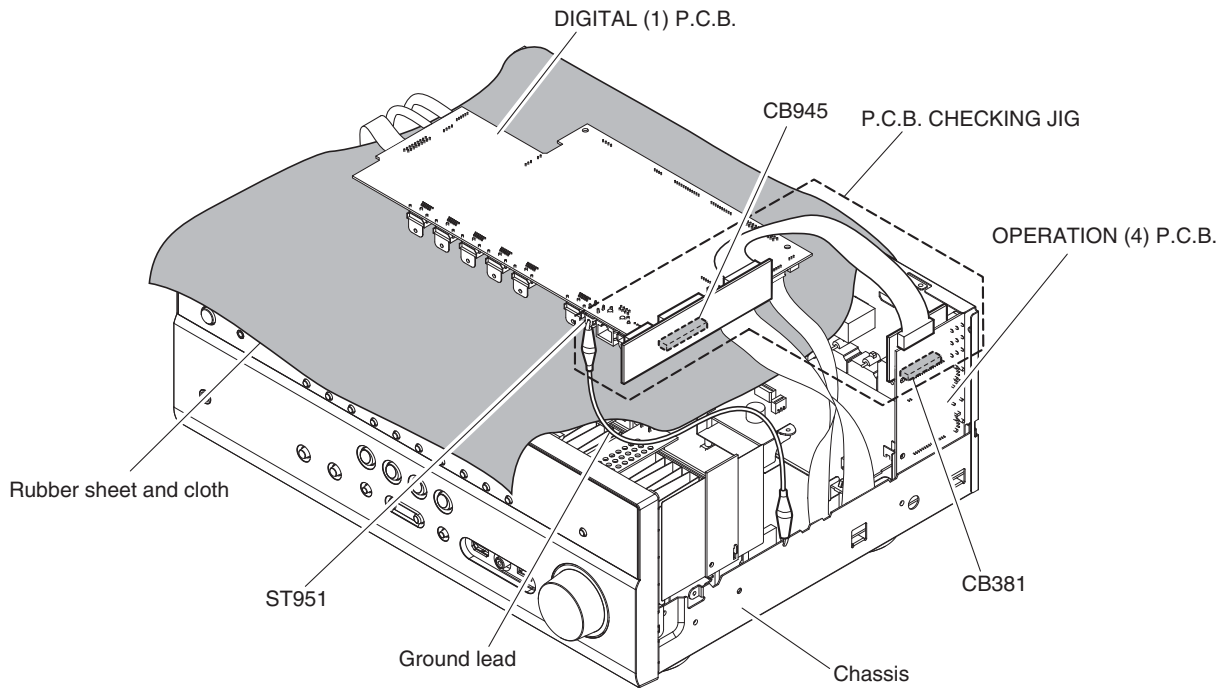

**Fig. 4**
**When checking the MAIN (1) P.C.B.:**
- Place the P.C.B.s (with rear panel) upright. (Fig. 4)
- Connect the heatsink and rear panel to the chassis with a ground lead or the like. (Fig. 4)